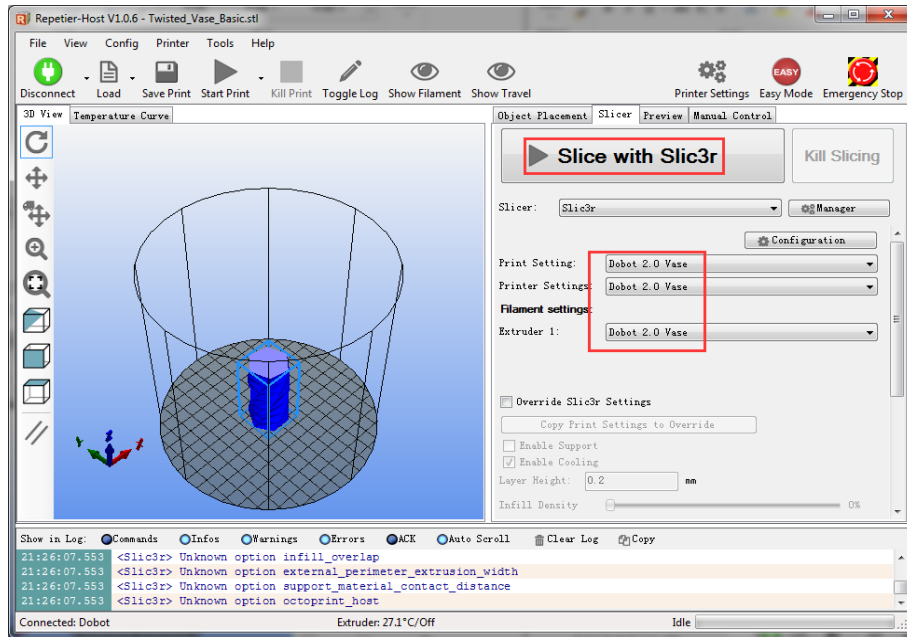

Figure 5.102 Start to slice
4. Click Slici with Slic3r on the Slicer tab of the Repetier Host page, as shown in Figure 5.102.